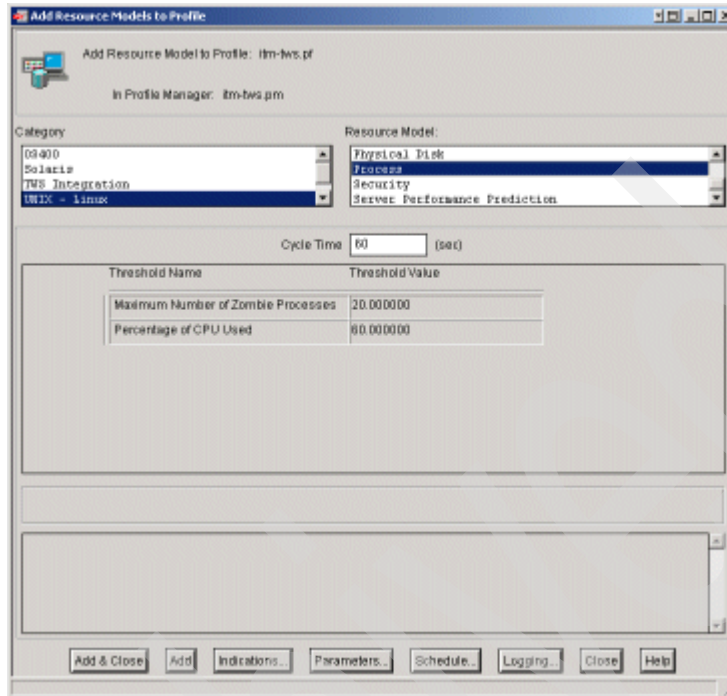

Figure 9-102 Selecting the Process resource model for the netman process
3. Select **UNIX – Linux** in the Category list on the left-hand side of the window, and ensure Process is selected in the Resource Model list on the right-hand side of the window as shown in Figure 9-102 on page 509.